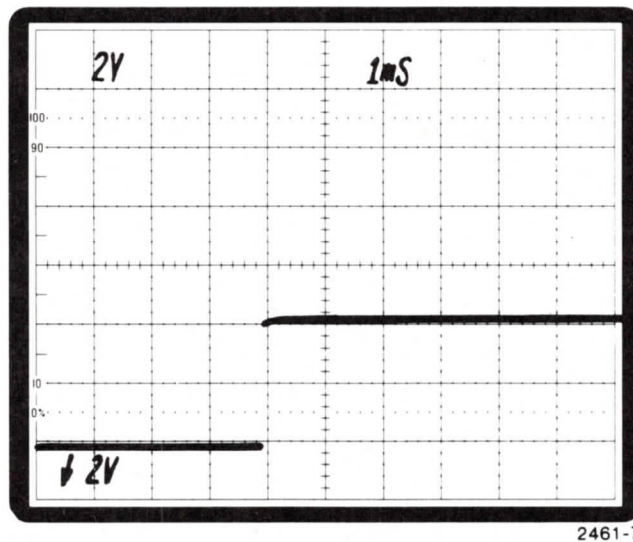

Figure 10-4. PFAIL Waveform.
11. Turn the terminal off while watching the oscilloscope for a PFAIL waveform. See Figure 10-4. Verify that the pulse generated is a minimum of 2 ms.